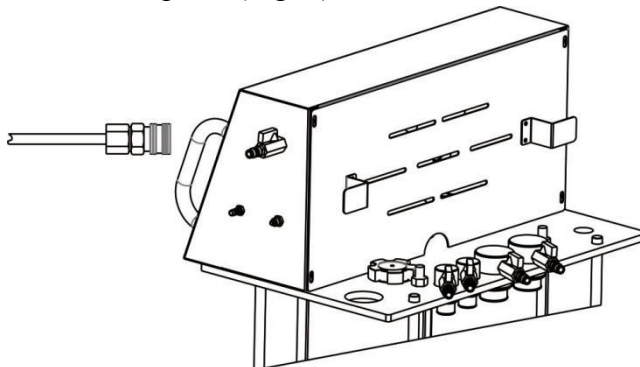

Fig. 4
3. Connect the machine to shop air. (Fig. 4)